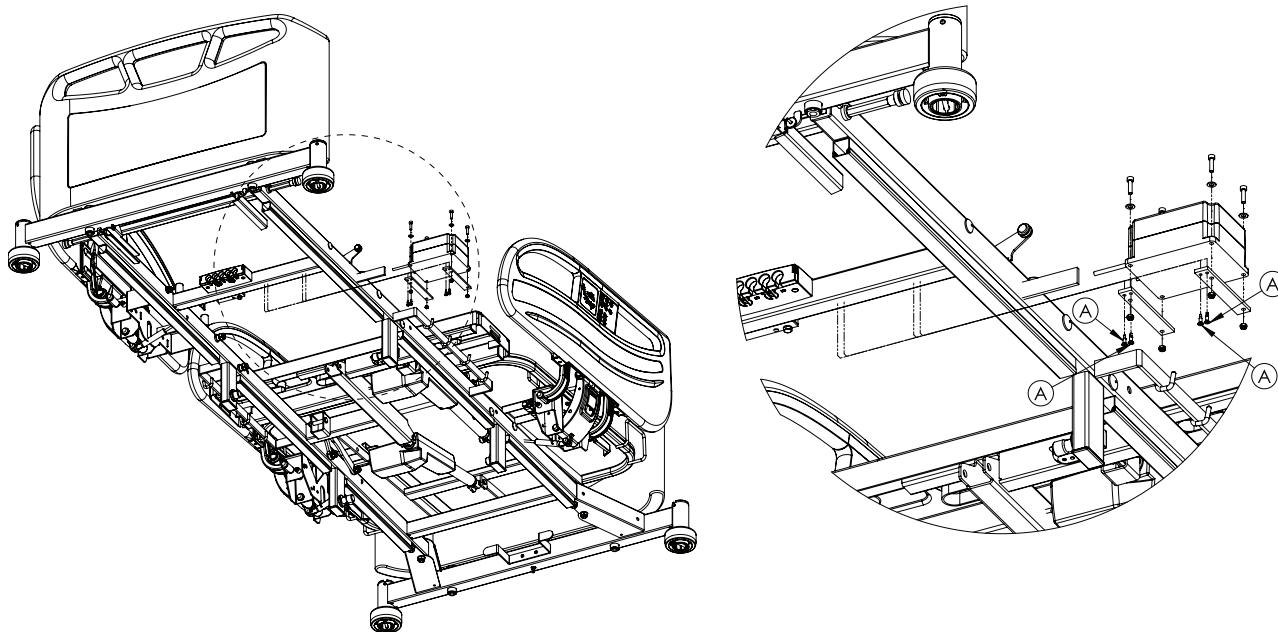

Figure 12: Battery
6. Using a #2 Phillips screwdriver, unscrew the four screws (A) that secure the battery to the litter frame (Figure 12 on page 52).